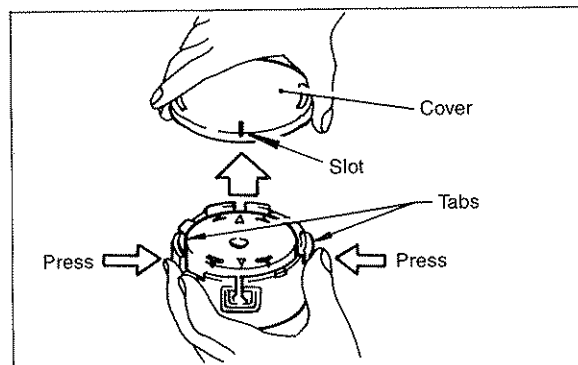

Fig. 30
1. Press on the tabs (Fig. 30) in the side of the housing and remove the cover. Now remove the spool and only remaining part of nylon cord.